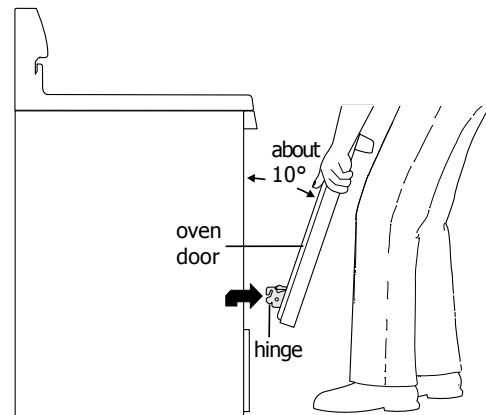
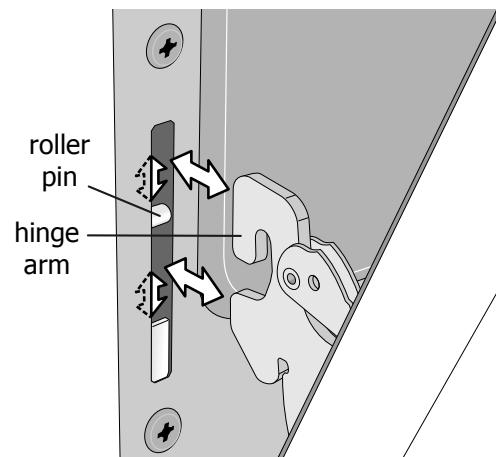

Fig. 3
Fig. 4
2. Holding the oven door at the same angle as the removal position (See Fig. 3), seat the hook of the hinge arm over the roller pins located on each side of the oven door frame (See Fig. 4). The hook of the hinge arms must be fully seated onto the roller pins.